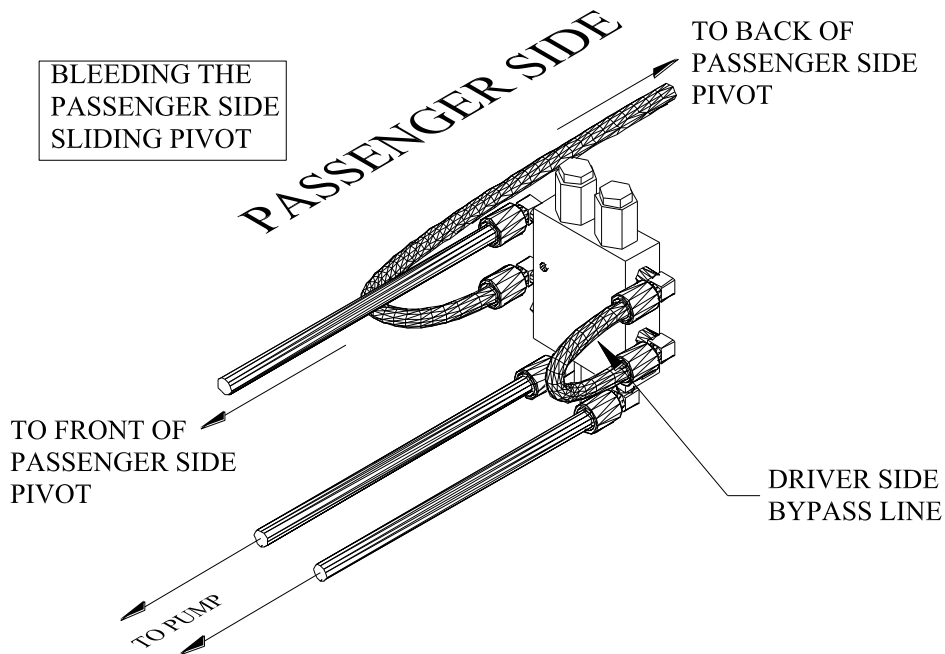

Figure 13
- 2) Plumb the opposite side for bleeding. (Refer to Fig. 13)